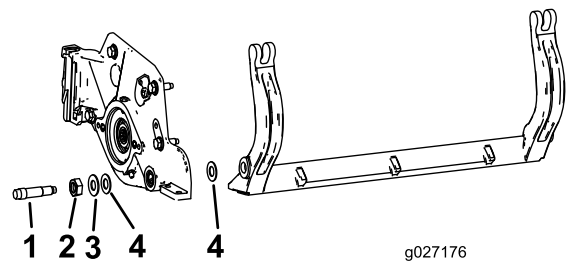

Figure 25
Account for 2 nylon and 1 stamped steel washer on each end of the bedbar (Figure 25).
3. Position a nylon washer on each side of the side-plate boss. Place a steel washer outside each of the nylon washers (Figure 25).